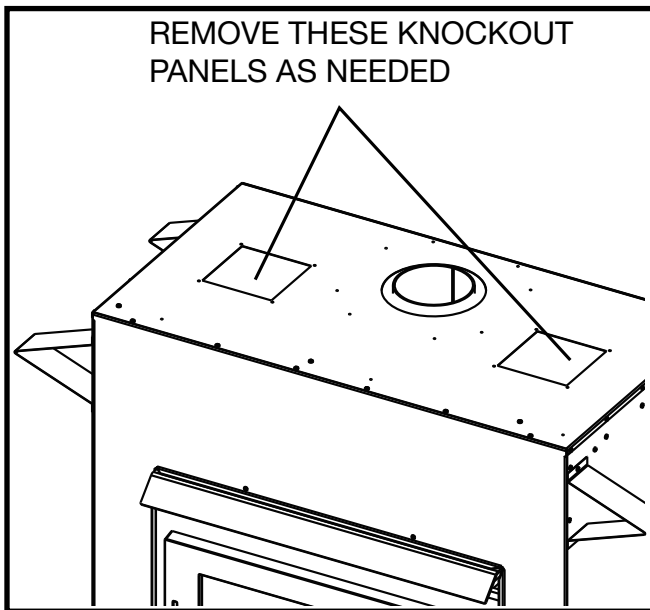

Figure 21: Knock out panels.
1. Remove the knockout panel from the top of the unit for each Remote Heat Kit you are installing (Figure 21).